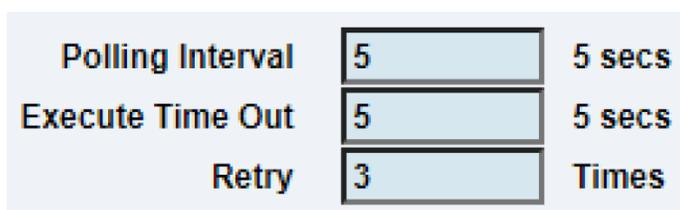

FIGURE 3-14: SENSOR EXECUTION SETTINGS
8. Configure the Virtual Sensor execution settings as shown in Figure 3-14 below: